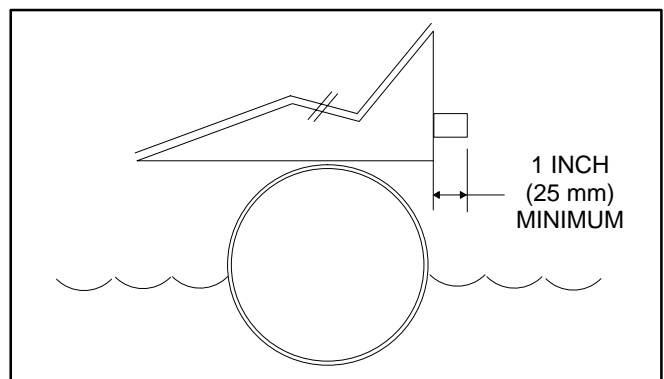

FIGURE 6. TERMINATING THE EXHAUST TAILPIPE
2. Do not terminate the tailpipe underneath the boat. Extend it a minimum of 1 inch (25 mm) beyond the perimeter of the boat (Figure 6).